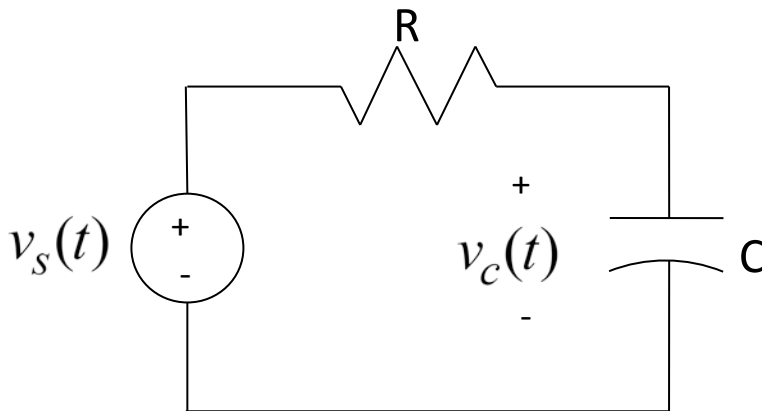

Figure 1. Circuit for Part A.
- 2) Using the Digilent EE bread board construct the circuit shown in Figure 1 using your $1 \mu\text{f}$ capacitor and a $1 \text{ k}\Omega$ resistor. These components should be available in your lab kit. We will measure the output of the circuit as the voltage across the capacitor. We will be trying to estimate the time constants for this circuit as we vary the resistance. The time constant for this circuit is $\tau = RC$, and we will measure the time constant by determining the 10%-90% rise time, t_r , and using the formula